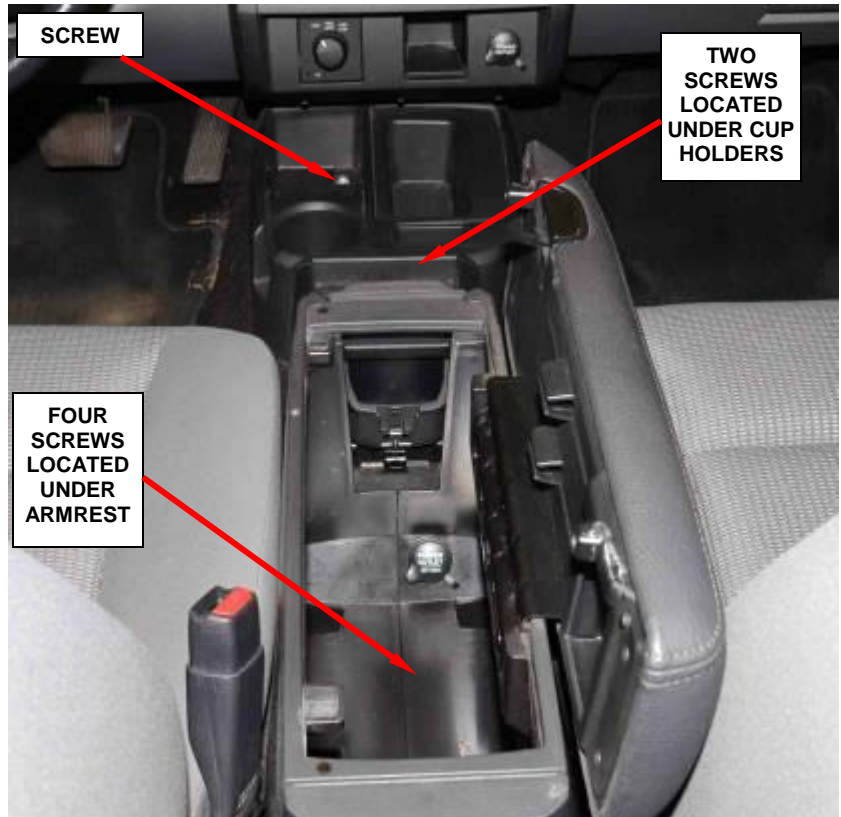

Figure 68 - Floor Console (ATX Shown)
- d. Remove the screws that secure the floor console to the floor panel (Figure 68).